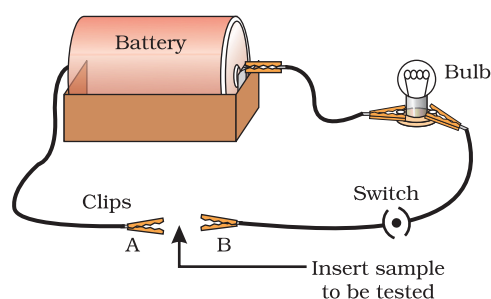

Figure 3.2
- Set up an electric circuit as shown in Fig. 3.2.